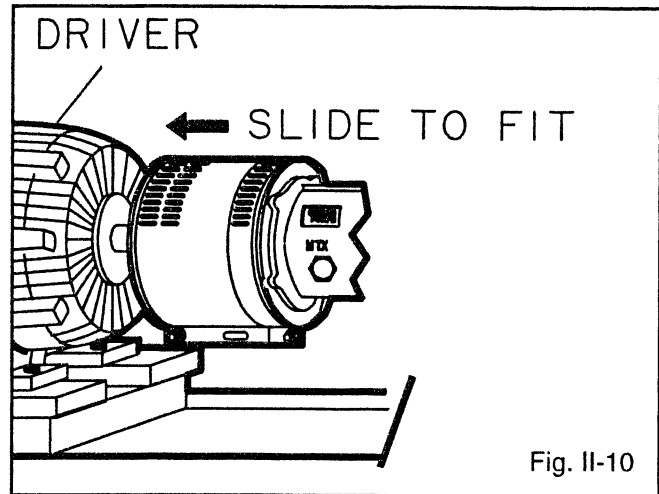

Fig. II-10
- Adjust length of coupling guard to completely cover shafts and coupling as shown in Fig. II-10 by sliding coupling guard half (driver end) towards motor. After adjusting guard length, secure with bolt, nut and two (2) washers through the slotted holes at the center of the guard and tighten. Check all nuts on the guard assembly for tightness.
- Remove nut, bolt, and washers from center slotted hole in the coupling guard. Slide motor end coupling guard half towards pump. Fig. II-10.